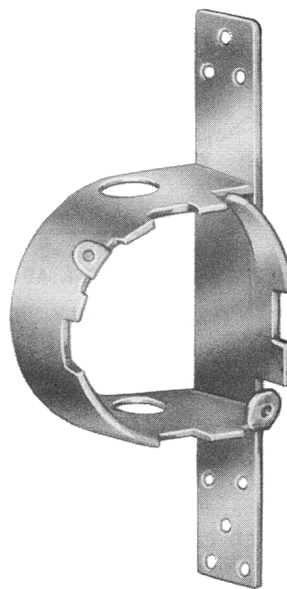

Fig. 25 — 63A Bracket
3.02 The 63A bracket (Fig. 25) is used in prewiring a building (i.e. house) during construction prior to finishing the wall surface. The